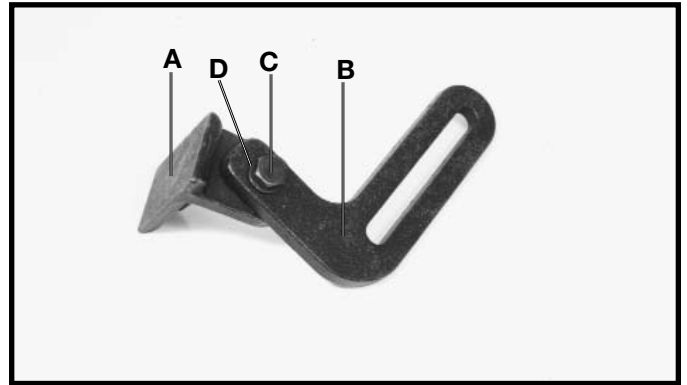

Fig. 3
1. Assemble adjustable tool rest (A) Fig. 3, to left side of tool rest arm (B), as shown, and fasten with one 5/16-18x3/4" hex head screw (C) and 5/16" lockwasher (D). Assemble the remaining tool rest to the right side of the other tool rest arm in the same manner. Do not completely tighten hardware at this time.